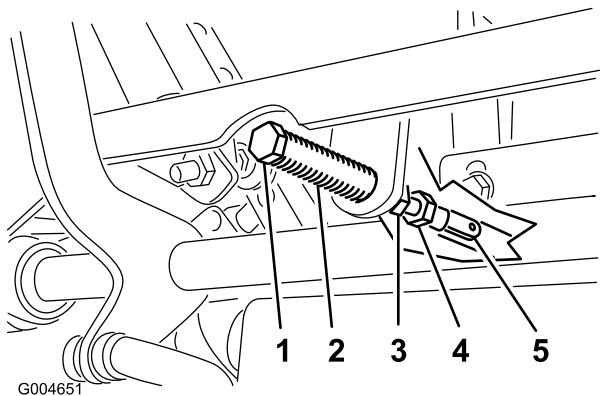

Figure 72
5. Pull the lever back until the clevis pin (on an arm above the pivot shaft) contacts the end of the slot (just beginning to put pressure on the spring) as shown in Figure 72.
7. If adjustment is needed, loosen the nut and jam nut against the yoke (Figure 72).
8. Applying slight rearward pressure on the motion-control lever, turn the head of the adjustment bolt in the appropriate direction until the control lever is centered in the NEUTRAL-LOCK position (Figure 72).
9. Tighten the nut and jam nut (Figure 72).
10. Tighten the jam nuts at the ball joints (Figure 72).